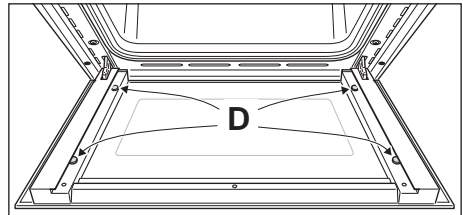

Fig. 8.16a
IMPORTANT: It is advisable, while removing the glass, to keep pressed in position the four rubber pads "D" (fig. 8.16a), by a finger, to avoid breakage or slippage of the rubber pads themselves.
- Check that the four rubber pads are in place ("D" in fig. 8.16a).